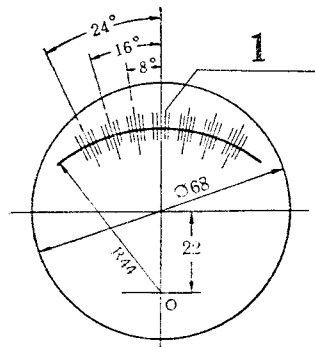

Fig. 3-9 Dial for Checking Turn-And-Slip Indicator
(1) Check the error of the pointer deviating from zero. After tapping the instrument case, the pointer deviation from the zero position should not be more than  $\pm 1.5^\circ$ .
(2) Check the moving system for balance. As the instrument is in normal operation, bank the instrument to the left and right by  $90^\circ$  respectively, the additional indicated error should not be more than  $\pm 1^\circ$ .
(3) Check sensitivity.
A. Fix the perspex dial to the face of the turn-and-slip indicator as shown in Fig. 3-9, make the "O" point and zero index line of the dial align with the centre of the pointer axis of the indicator and the centre line of zero index respectively.